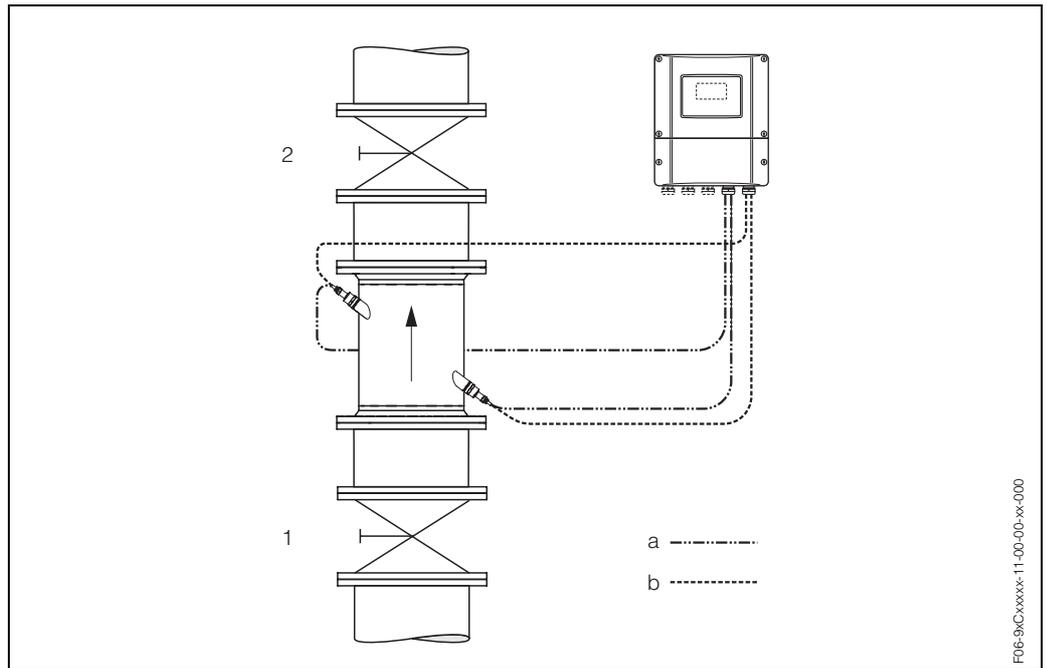

Fig. 32: Zero point adjustment and shut-off valves
- Zero point adjustment is performed with the pipe completely filled and at zero flow ($v = 0$ m/s). This can be achieved, for example, with shut-off valves upstream and/or downstream of the measuring range or by using existing valves and gates (Fig. 32).